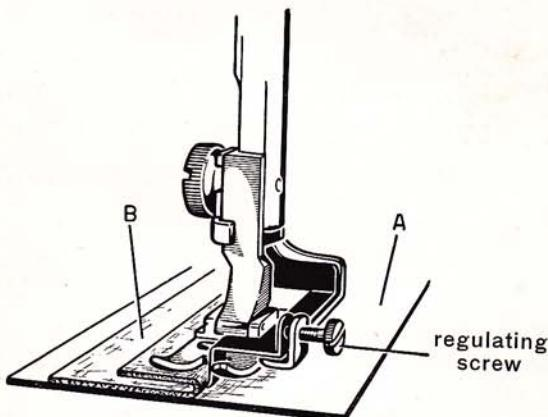

Fig. 42
such a way that needle enters in the middle of the folded fabric « B », as shown in Fig. 42.
- b) Place second fabric, properly folded, above the first fabric, as shown in Fig. 42.